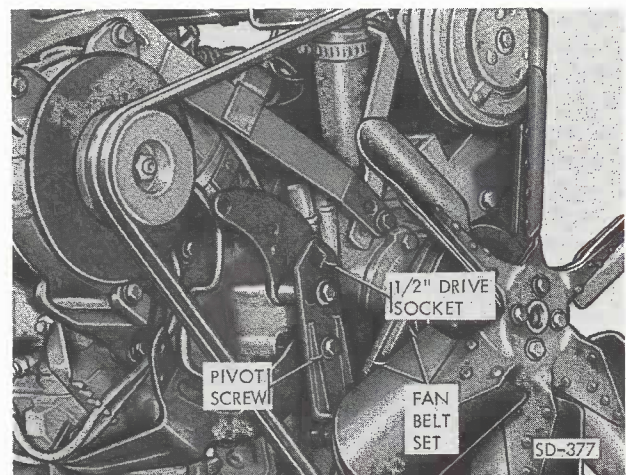

Figure 4-25. Fan Belt Adjustment
**a. Fan Belt Tension (fig. 4-25).** Fan belt tension should be checked frequently and, if necessary, adjusted. Adjust belt to proper tension by loosening idler pulley pivot screw and slotted hole screw. Place a 1/2 inch socket drive wrench in square slot and adjust belts to 80 - 100 pounds on a new belt, 60 - 75 pounds on a broken-in belt. Torque pivot screw and slotted-hole screw to 100 foot-pounds.